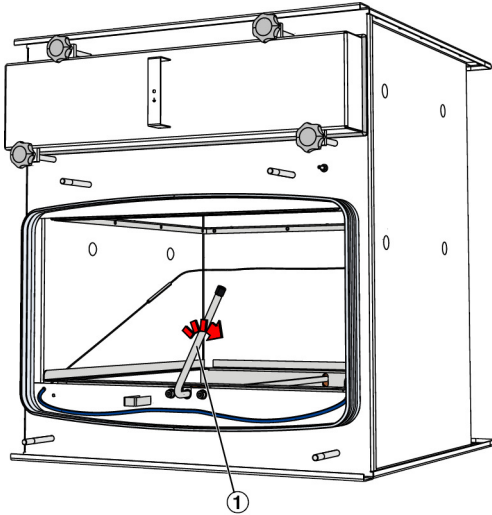

Fig. 4: Releasing the clamping frame
3. ▶ Release the clamping frame by turning the operating lever (Fig. 4/1) clockwise.